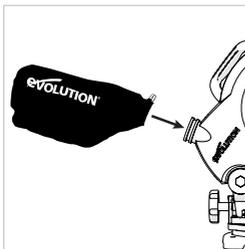

Fig. 29
- Slide the Dust Bag over the dust extraction port, ensuring that the spring clip grips the port holding the Dust Bag securely in place. **(Fig. 29)**